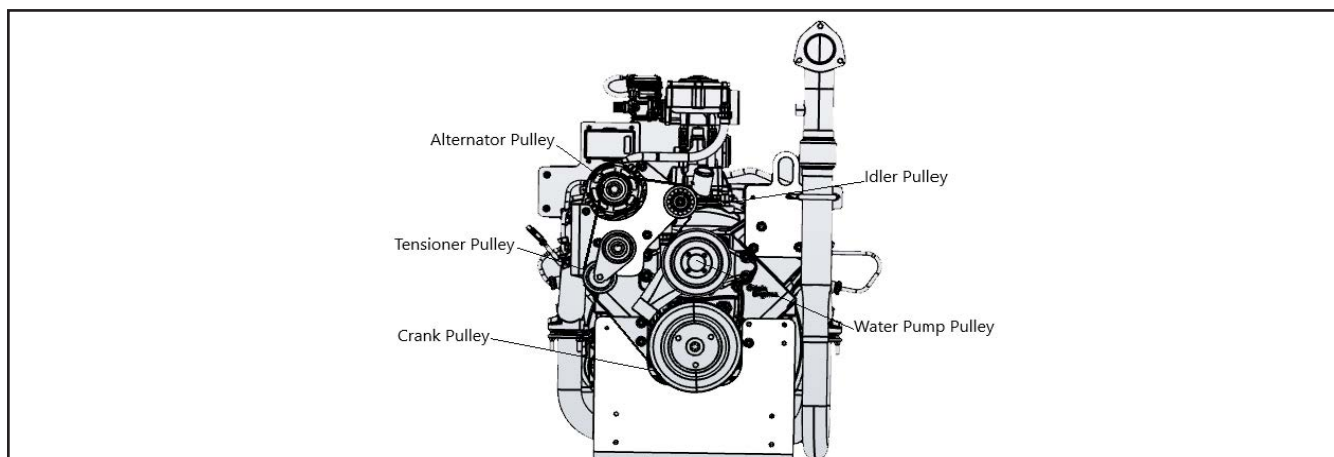

Figure 32 Drive Belt Diagram
3. Route a new drive belt following the diagram shown in Figure 32.